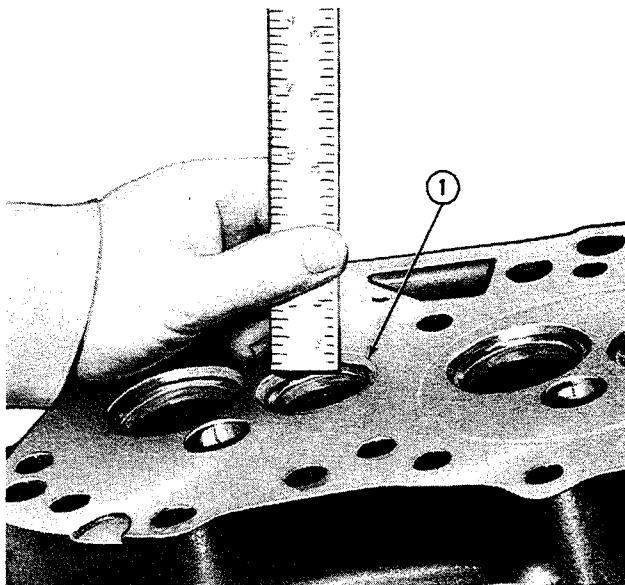

Figure 15
- 6. Measure the width of the valve seats, Figure 15, and reface the seats if they do not meet the specifications shown in Figure 17.